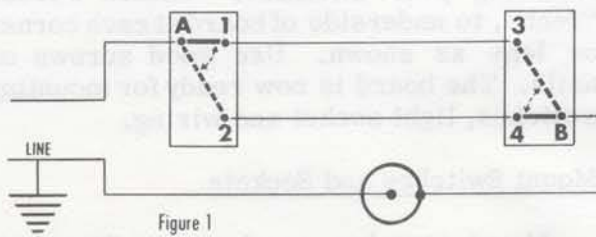

Figure 1
In Figure 1, you can see how a 3-way switch is connected to the line wire at A. Current may flow from A to (1) or from A to (2), depending on the position of the switch. The words "ON" and "OFF" do not appear on the switch. Either position of the switch handle will operate the light, depending on the position of the other 3-way switch at B operating the same light.